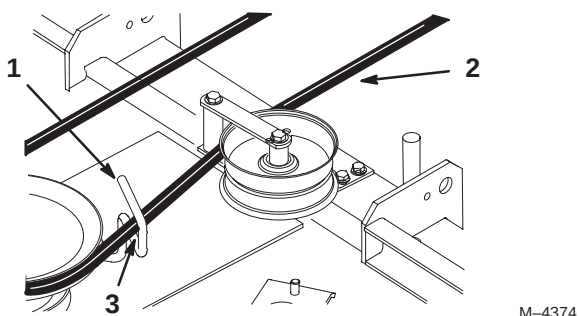

Figure 62
11. Rotate the belt guide, on rear of the mower, so it is 1/8–1/4 in. (3–7 mm) away from the vertical side of the PTO belt (Fig. 62).